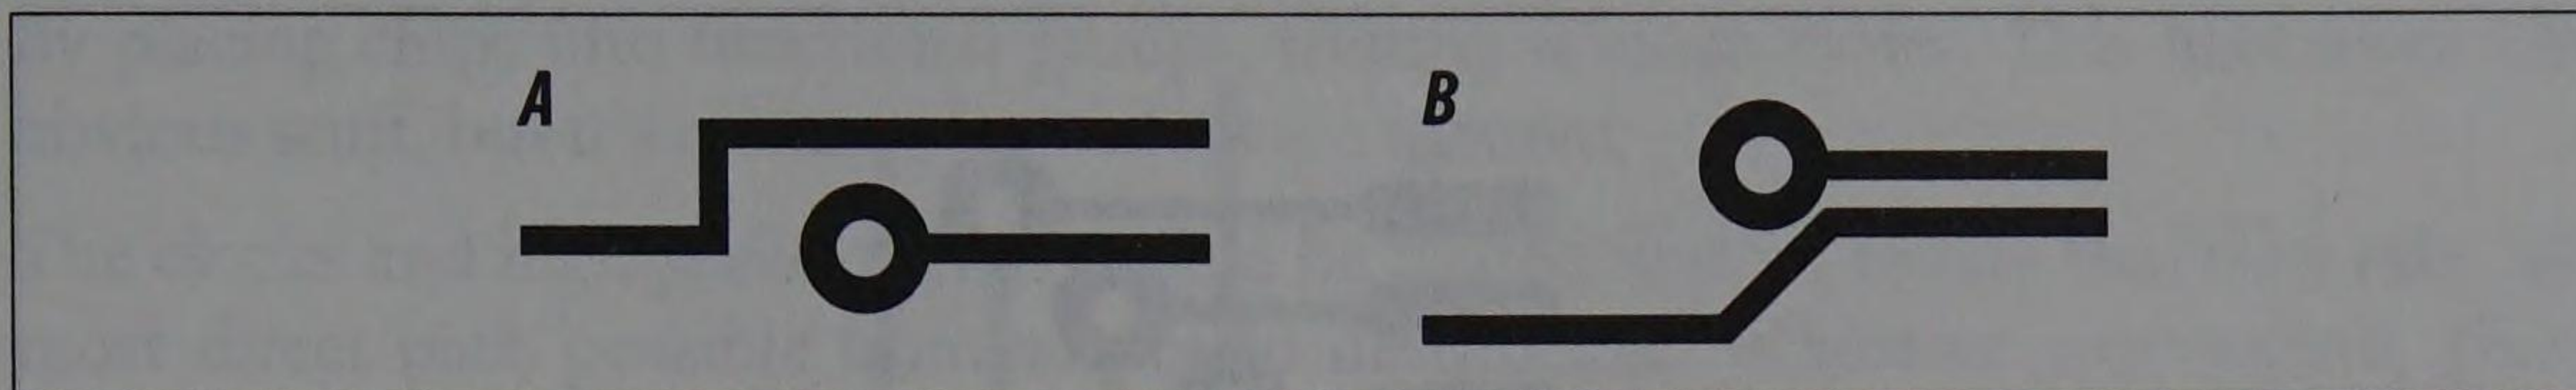

Figure 4-5. How not to route tracks around pads
Avoid right-angle turns (A) and close passes (B), as shown in Figure 4-5.